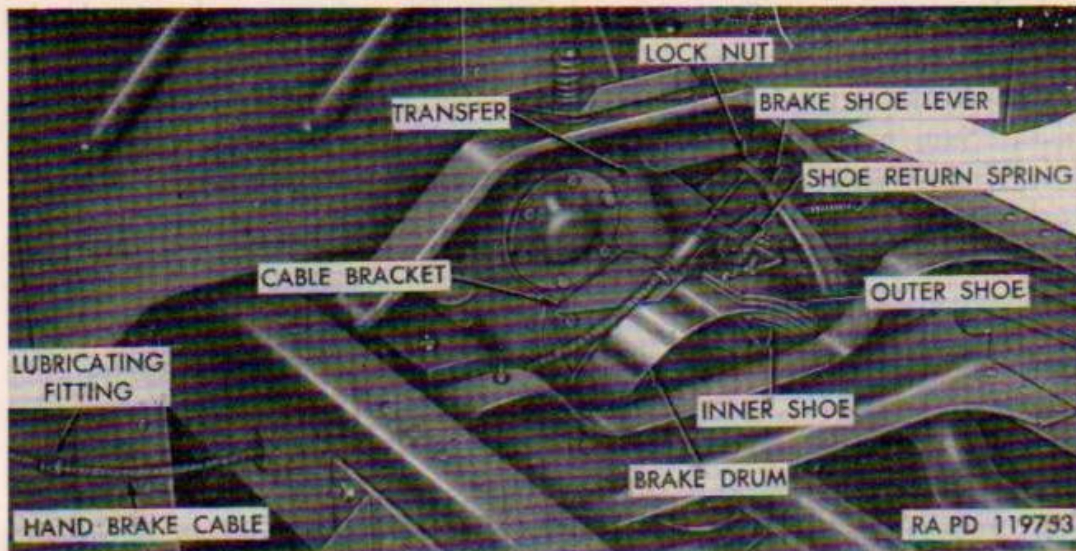

Figure 112. Hand brake.
a. REMOVAL (figs. 112 and 113). Disconnect and remove shoe return spring, and disconnect hand-brake cable from brake-shoe lever. Remove jam nut from shoe anchor pin at lower end of brake-shoe lever and unscrew anchor pin from transfer. Slide shoe assembly from brake drum. To remove brake shoes, remove washers from ends of shoe lever pins and slide shoes from pins.
b. **INSTALLATION** (figs. 112 and 113). Place inner and outer brake shoes on brake-shoe-lever pins and secure with washers. Slip assembly on brake drum and secure to transfer with shoe anchor pin and install jam nut. Connect hand-brake cable to brake-shoe lever and install shoe return spring. Adjust linkage (par. 158).
a. **REMOVAL** (fig. 112). Remove hand-brake shoes (par. 159). Disconnect propeller shaft companion flanges at rear of transfer (see **Warning**, par. 140). Remove cotter pin and nut from end of transfer output shaft. Remove companion flange and drum assembly from shaft. Remove nuts and lock washers holding drum to flange.
b. **INSTALLATION** (fig. 112). Position drum on flange bolts and secure with nuts and lock washers. Press companion flange and drum assembly on transfer output shaft and secure with nut and cotter pin. Connect propeller shaft companion flange and install hand-brake shoes (par. 159).